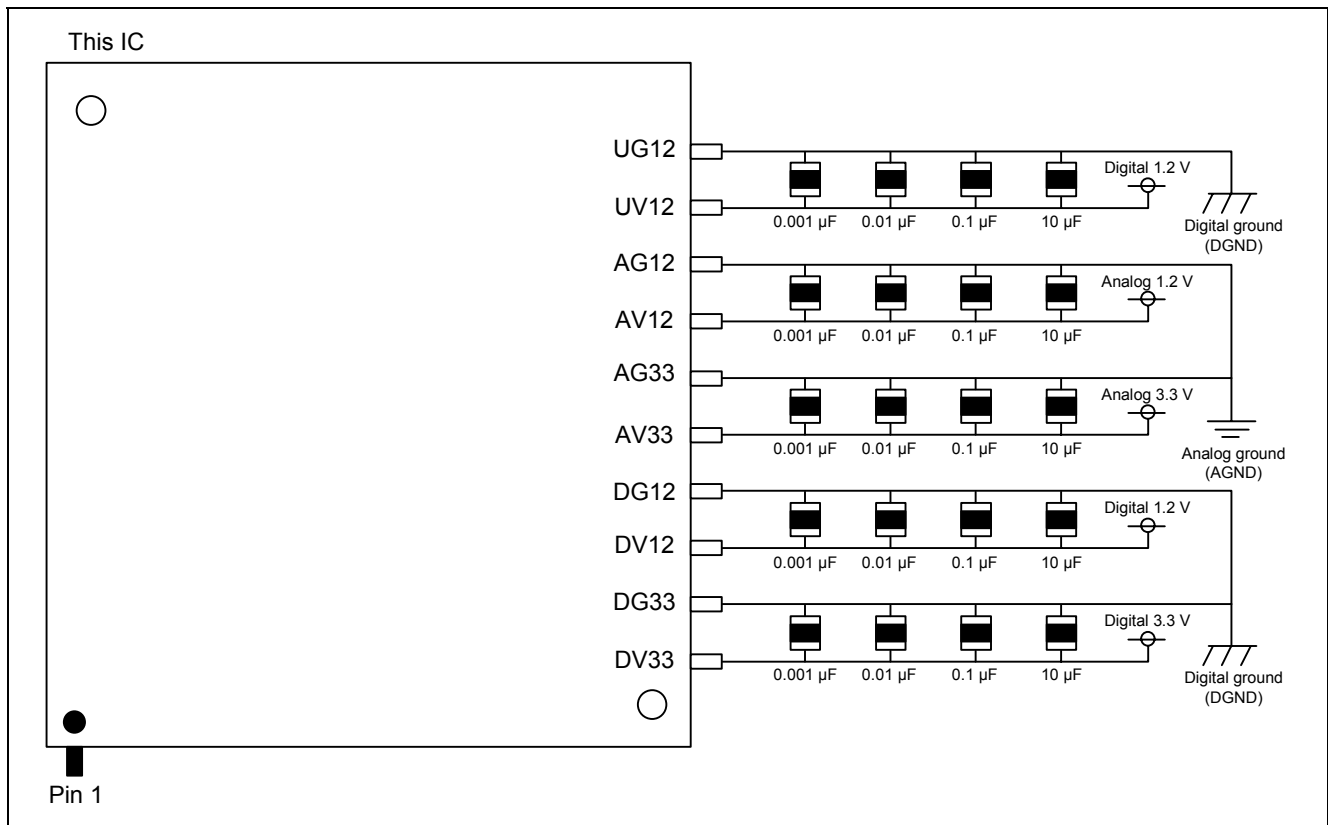

Figure 3 Decoupling Capacitor Positioning Example
- We recommend locating the decoupling capacitors with values of 0.001 μ F, 0.01 μ F, 0.1 μ F, and 10 μ F near the USB power supply pins. Figure 3 shows an example of decoupling capacitor positioning.